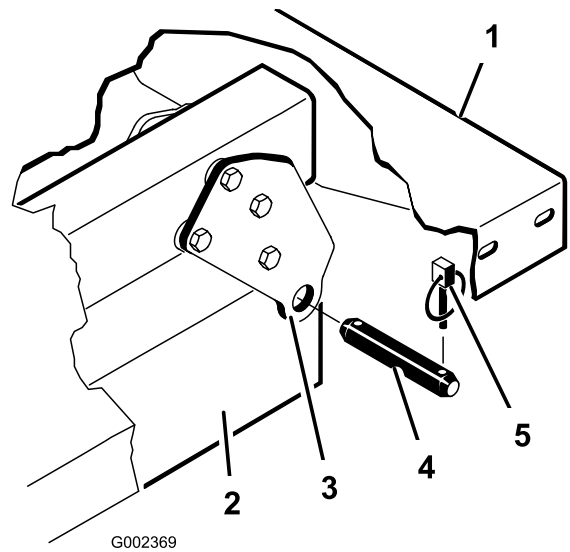

Figure 4
3. Remove the clevis pins securing the cylinder rod ends to the bed mounting plates by pushing the pins towards the inside (Figure 4).
4. Remove the lynch pins and clevis pins securing the pivot brackets to the frame channels (Figure 4).